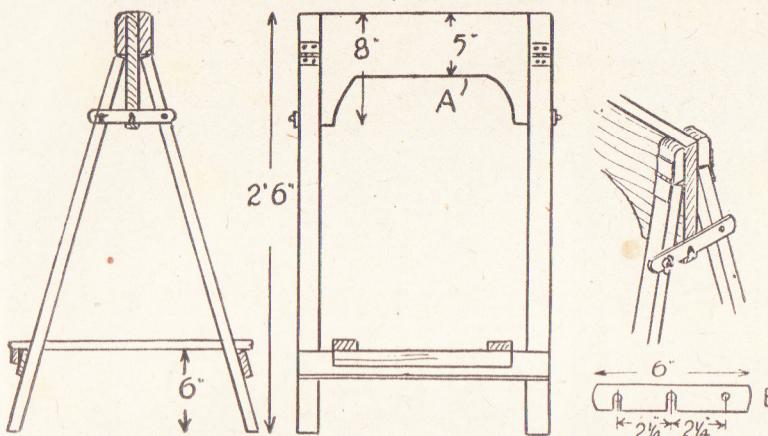

Fig. 1—End and front view of parts
A side and front elevation are given in Fig. 1. The dimensions will suit, in most cases, a wringer with 12in. rollers; if the rollers are longer, make the length of board (A) longer accordingly. All parts, except the legs, are cut from  $\frac{1}{2}$ in. deal board.